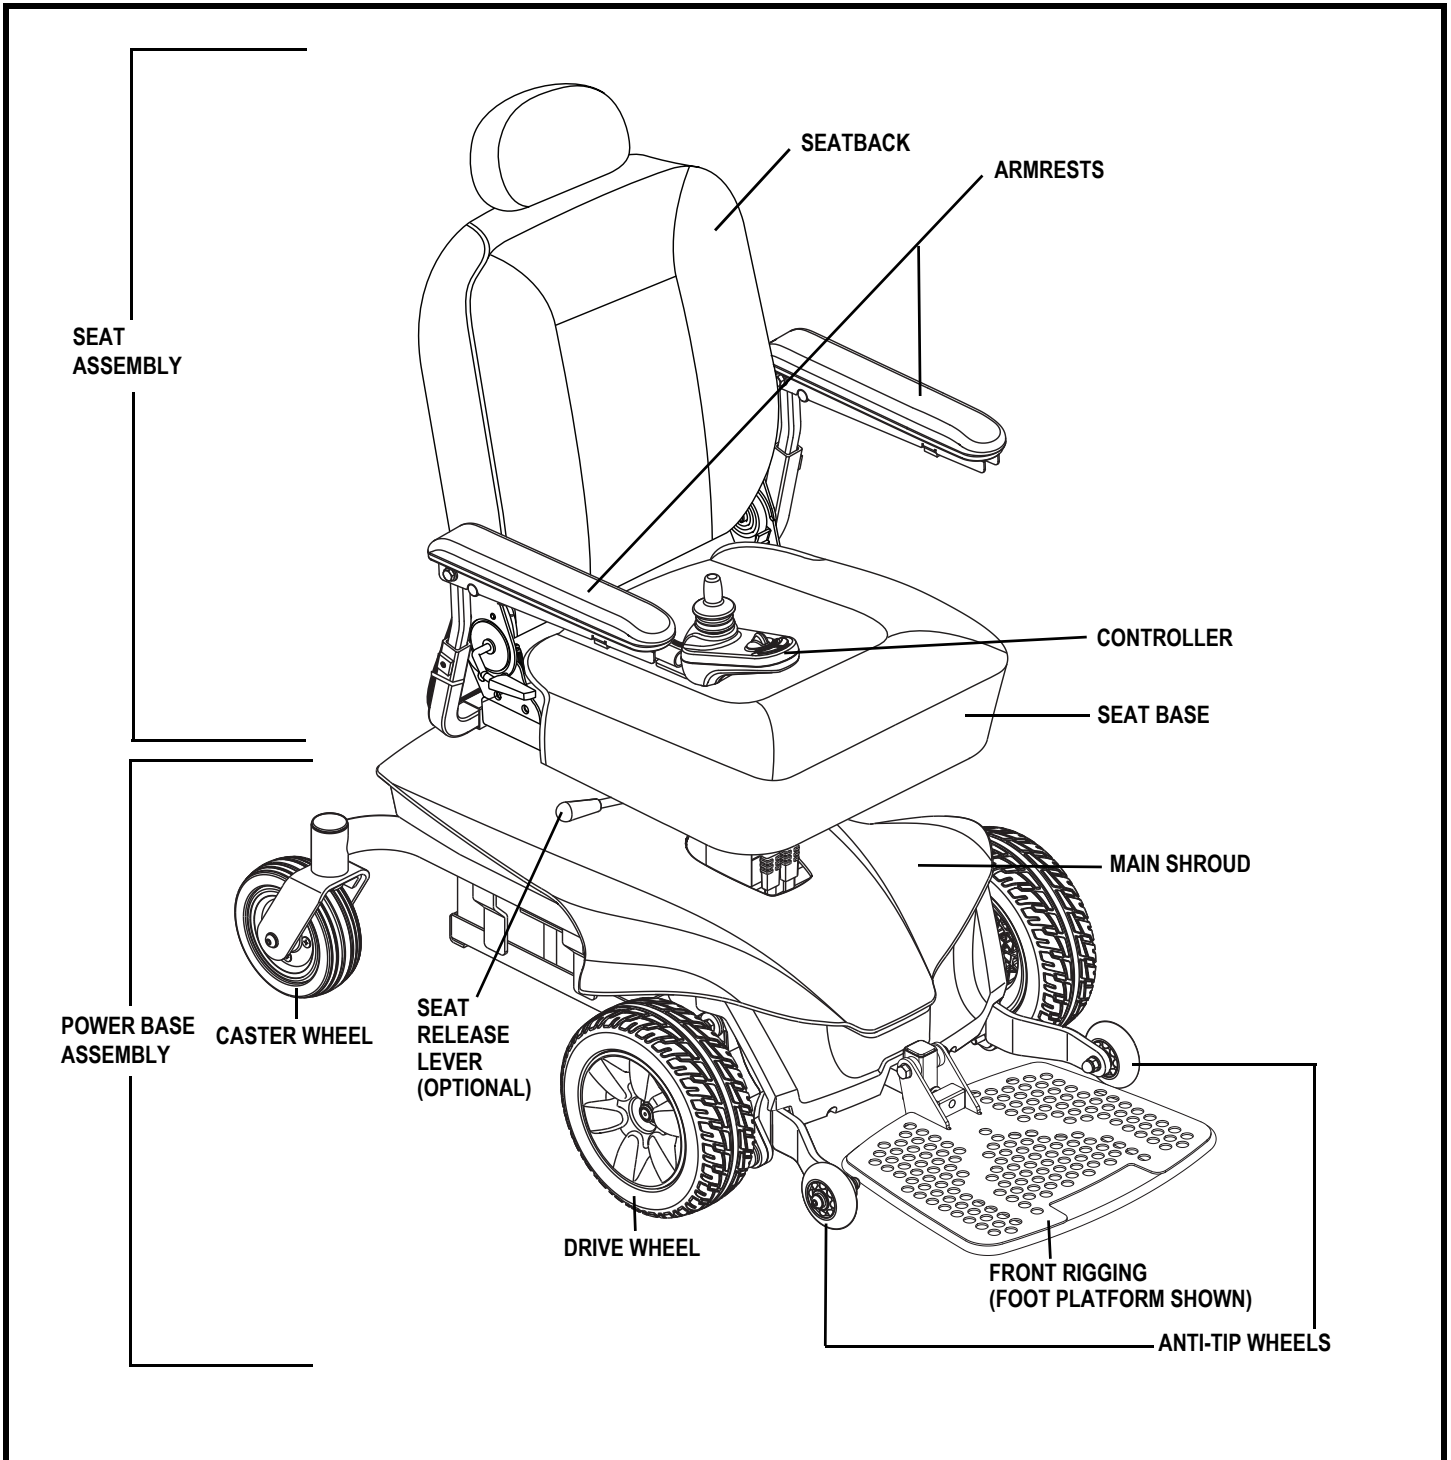
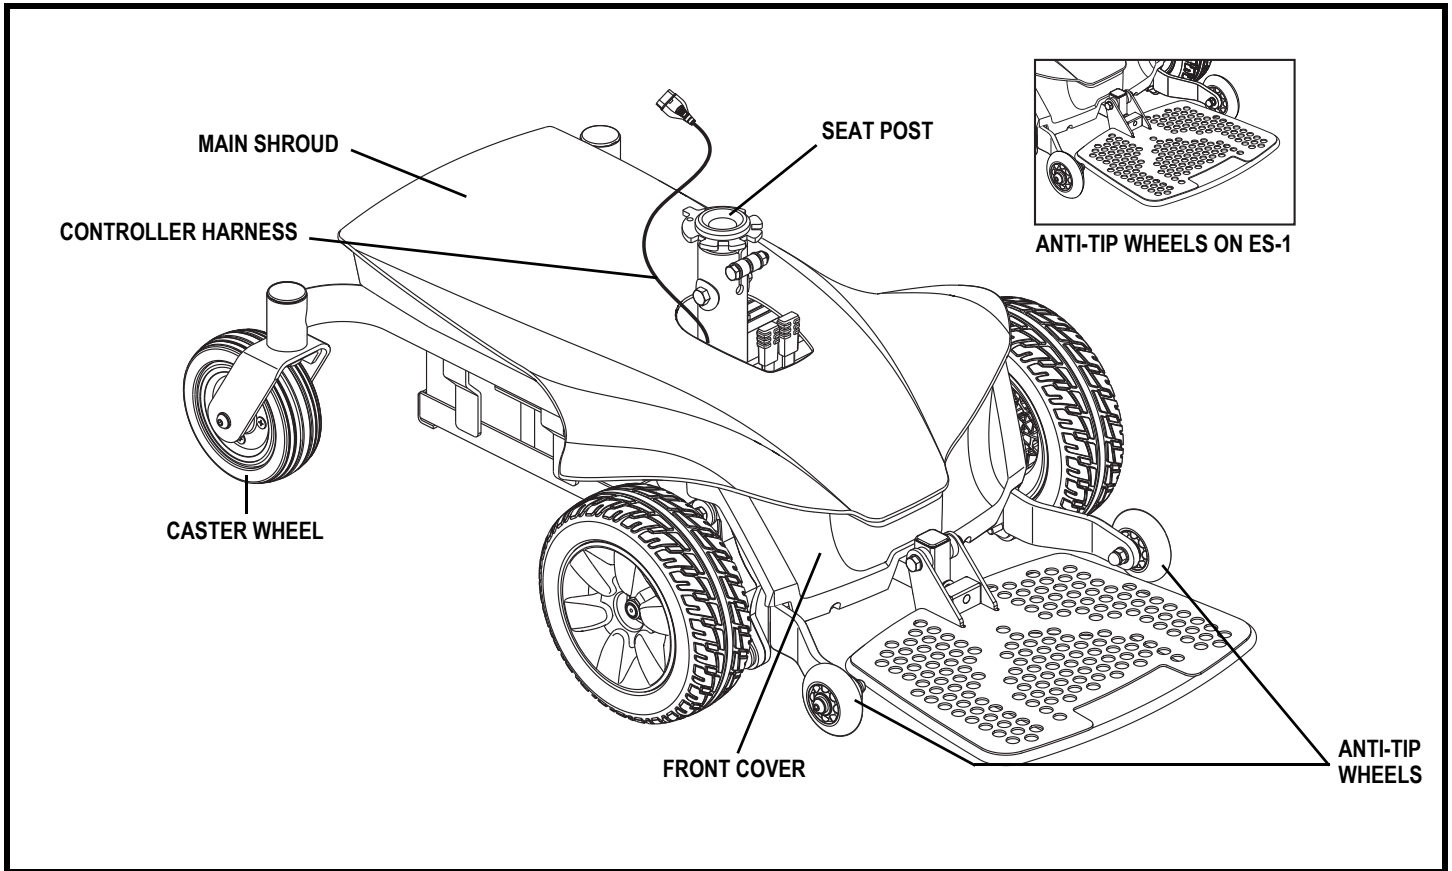

Figure 1. The Jazzy Elite ES Series Power Chair (Elite ES Shown)
Figure 2. The Jazzy Elite ES Series Power Base
The Jazzy Elite ES Series Power Chair has two main assemblies: the seat assembly and the power base assembly. See figure 1. Typically, the seat assembly includes the armrests, seatback, and seat base. The power base assembly includes two motor/brake assemblies, two drive wheels, two rear caster wheels, two front anti-tip wheels, two batteries, and wiring harnesses. See figure 2.
5. Plug the controller harness into the connector on the power base. **See figure 2.**
4. Disengage the seat release lever, if equipped. **See figure 1.**